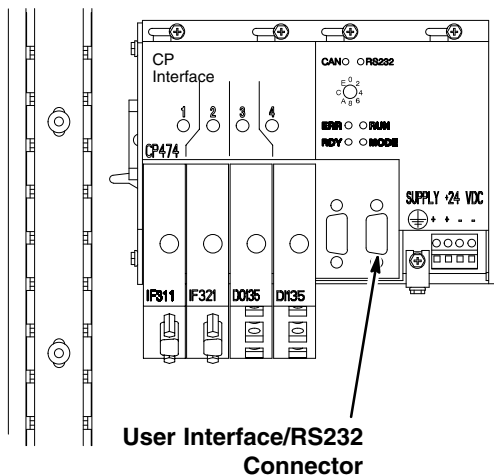

Fig. 13.6
5. Connect the communication cable between the computer serial port and the controller RS232 connector. See Fig. 13.6.
12. Disconnect the communication cable and reconnect the User Interface cable to the PrecisionMix II controller. See Fig. 13.6.
8. Disconnect the communication cable and reconnect the User Interface cable to the PrecisionMix II controller. See Fig. 13.6.